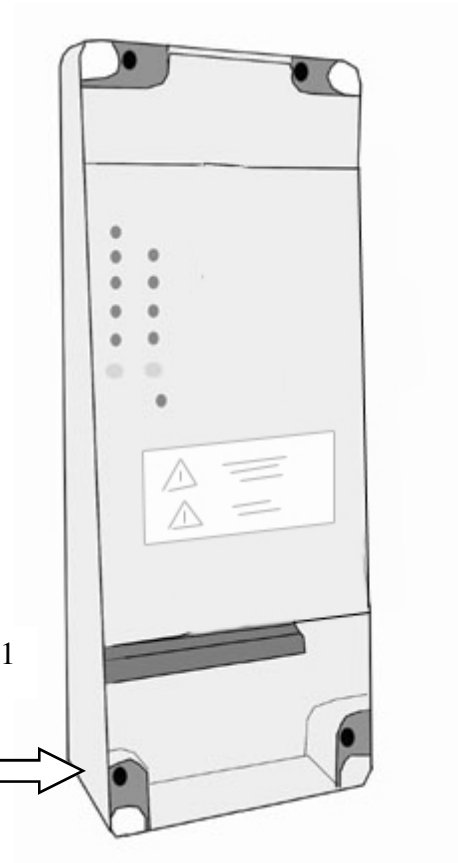

Fig 1
1. Plug the battery into the control board (fig 1). For charging purposes it is not necessary to hook the receiver to the battery or control board.
2. Level your box and mark your mounting holes. The holes are located in four corners of the control box (fig 1).